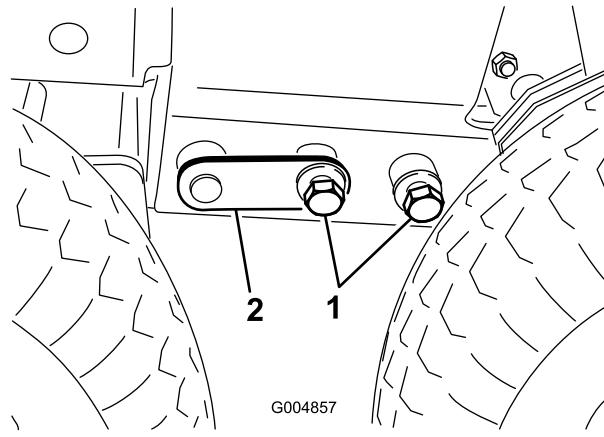

Figure 79
19. Remove the (2) 3/4" diameter bolts that attach the front frame to the rear frame ahead of the drive tire from each side of the frame (Figure 79). DO NOT REMOVE THE COUPLER PIN AT THIS TIME.